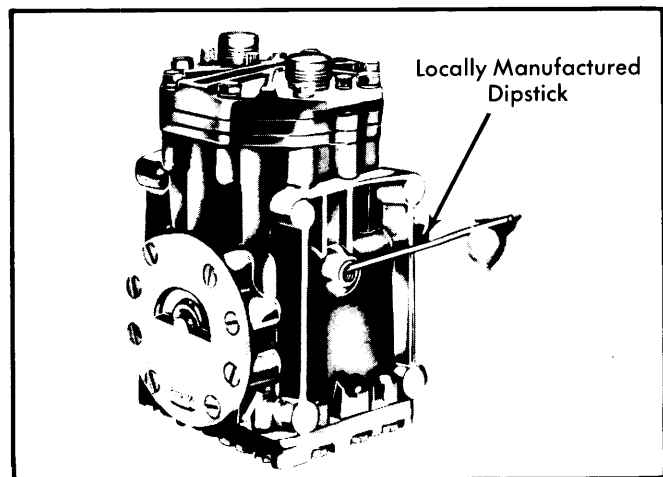

Fig. 3 Checking Oil on Vertically Mounted York Compressor
2) Stop engine and discharge entire system using a suitable Schrader-Type service valve. Fabricate a suitable dipstick according to specifications (see Fig. 3). Remove oil filler plug and insert dipstick until it bottoms. If necessary, slightly rotate compressor crankshaft by hand so that dipstick will clear. Level on dipstick must be within specifications.